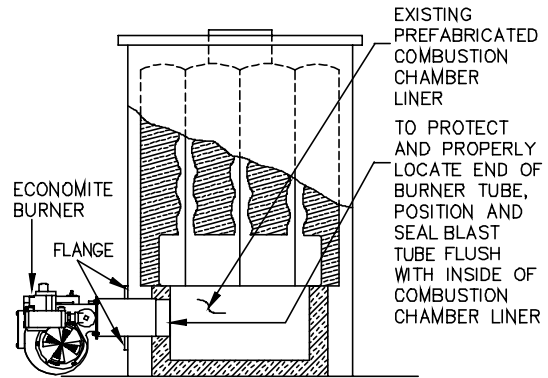

Figure 1: Dry Base Boiler with Combustion Chamber Liner (Similar to Warm Air Furnace Construction)
- Install mounting flange to the burner blast tube. The distance from the flange to the blast tube edge should be same as the gas utilization equipment wall thickness plus the flange gasket thickness. This will allow the burner blast tube to be flush with the inner chamber wall after the burner is installed. If the blast tube extends into the combustion chamber serious damage to the burner may occur, voiding the warranty, see Figure 1 & 2 for reference. For minimum combustion chamber dimensions see Table 1.
- The burner tube must be sealed air tight into the combustion chamber liner opening with refractory material as shown by Figures 1 and 2.
⚠ WARNING: Burner cabinet must be mounted in orientation shown in Figures 1 and 2. Any other